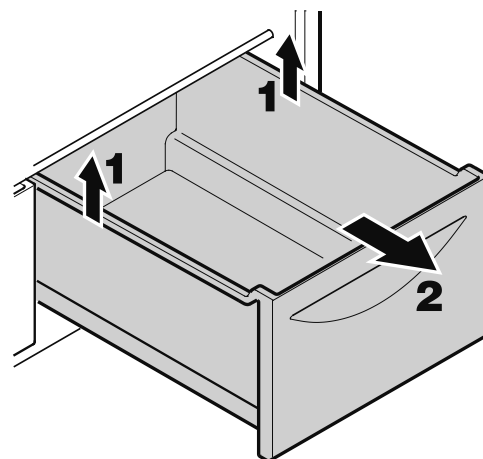

Figure 19
Pull the drawer straight out, grip at the back and lift out - **Figure 19.**
- Remove vegetable drawers as shown in **Figure 19**.